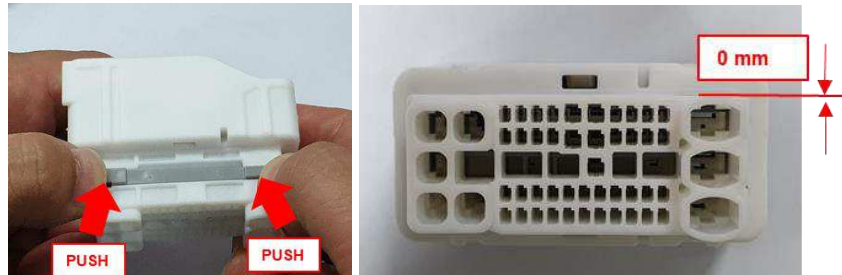

Fig. 10
- (1) After all cavities are filled by Contacts properly, push retainers to inside direction in order to complete Final Lock condition as shown in Fig. 10. Operation is completed when contact is latched and the insertion is stopped.